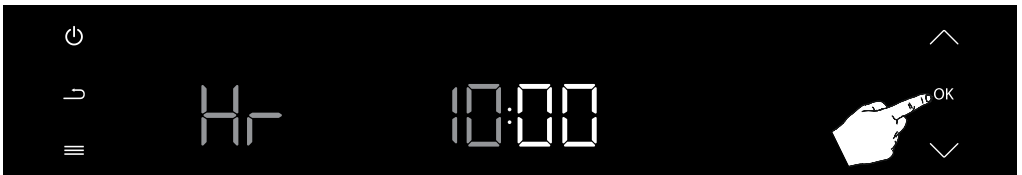

Figure 9
After setting the hour, press the confirmation button (OK) to set the minutes. (see figure 9)